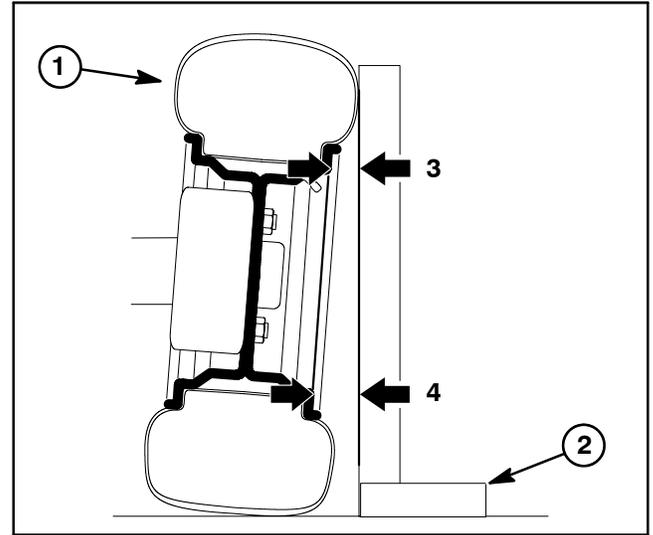
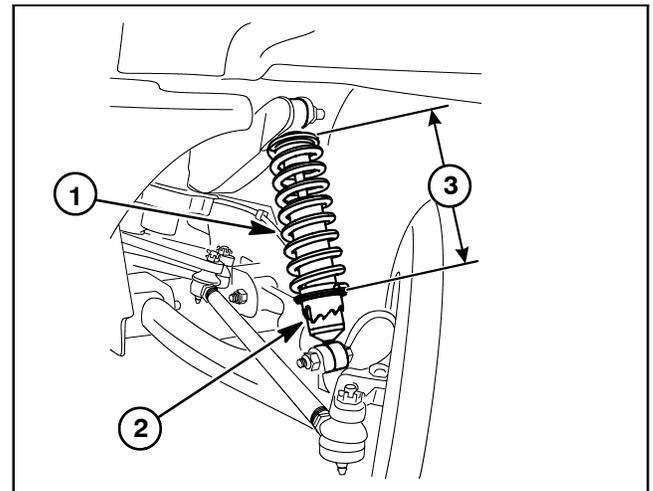

Figure 2.1
Figure 2.2
A. Place a 90° square on the ground with the vertical edge touching the face of the tire (Fig. 2.1).
B. From the same part of the rim, measure the distance from the top and bottom of the rim to the square. Record the two (2) measurements.
B. Use spanner wrench (TOR6010: see Special Tools in this chapter) to rotate shock absorber collar which changes the length of the shock spring (Fig. 2.2). If the bottom camber measurement was too short, rotate the collar to reduce the length of the shock spring. If the bottom camber measurement was too long, rotate the collar to increase the length of the shock spring.